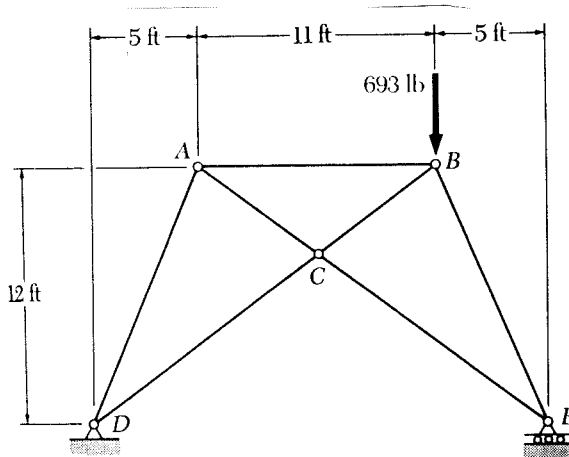

Fig. P4
- 4) Using the **method of joints**, determine the force in each member of the truss shown in Fig. P4. State whether each member is in tension or compression. [Secs. 6.1-6.3] (20 pts.)